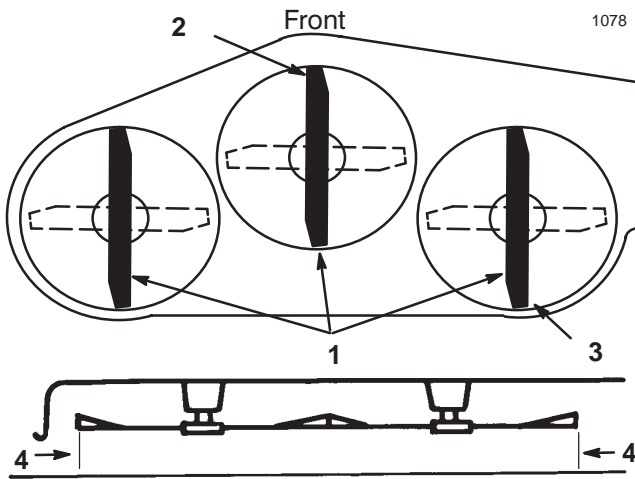
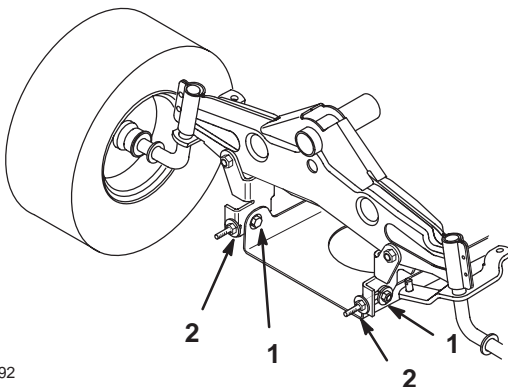

Figure 14
Figure 15
- Move the height-of-cut lever into the "C" notch and carefully rotate the blades so that they are facing front to rear (Fig. 14).
- Measure between the tip of the front blade (Fig. 14) and the tip of the rear blade to the flat surface. If the front blade tip is not $0-5/16$ in. (0-8 mm) lower than the rear blade tip, adjust the front mower mounting plate at the axle (Fig. 15).
- To adjust the front-to-rear blade slope, loosen the front pivot plate mounting bolts slightly (Fig. 15).
- Rotate the locknuts on the eyebolts to change the adjustment (Fig. 15). To raise the front of the mower, tighten the eyebolt locknuts. To lower the front of the mower, loosen the eyebolt locknuts.
- After adjusting both eyebolt locknuts evenly, check the front-to-rear slope again. Continue adjusting the eyebolts until the front blade tip is 0-5/16 in. (0-8 mm) lower than the rear blade tip (Fig. 15).
- When the front-to-rear slope is correct, tighten the pivot plate mounting bolts (Fig. 15).